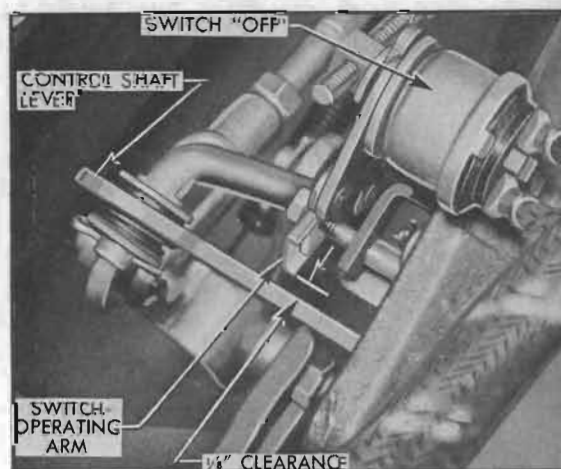

Figure 11-5—Position of Switch Operating Arm in Second Speed
4. Place transmission gear shift lever in second speed position and check clearance between end of switch operating arm and rear edge of control shaft lower lever. The clearance will be approximately $\frac{1}{8}$ " if switch is properly adjusted. See figure 11-5.